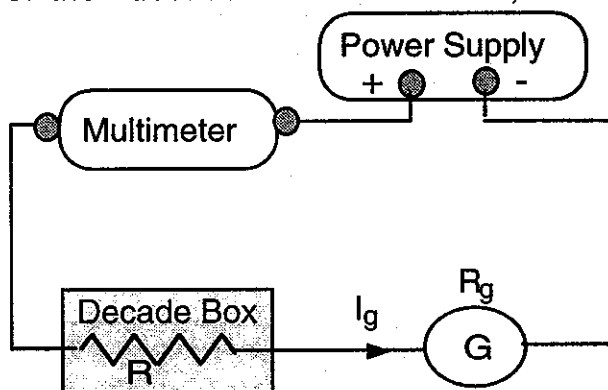

Fig. 4.3
- Make the circuit as shown in Fig. 4.3. Adjust the current limit to maximum and the voltage of the power supply to zero. Adjust the resistance (R) of the decade box to about $10,000 \Omega$.